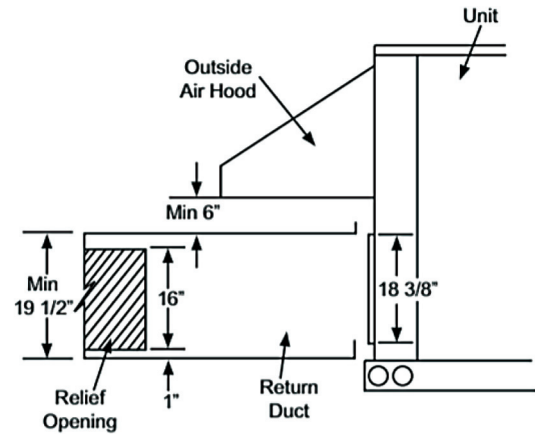

Fig. 34 — Relief Damper
1. Install the field provided horizontal ductwork onto the unit. Duct height must be at least 19 1/2 inches high, however the duct can be no taller than the top of the relief opening in the bottom panel, or airflow into the outside air hood will be restricted. See Fig. 34.
2. Cut a 16 in. x 36 in. opening in the return duct for the relief damper (see Fig. 34).